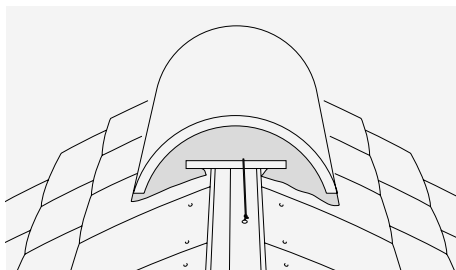

Fig. 15 – Bedded mono-ridge with 2 mechanical fixings
- 2 Lay mono-ridge tiles for Plain and Interlocking profiles as standard ridge tiles and mechanically fix each by using 2 No. 50mm x 10g stainless steel screws (supplied) to timber fascia behind vertical leg (Fig. 15, page 52).